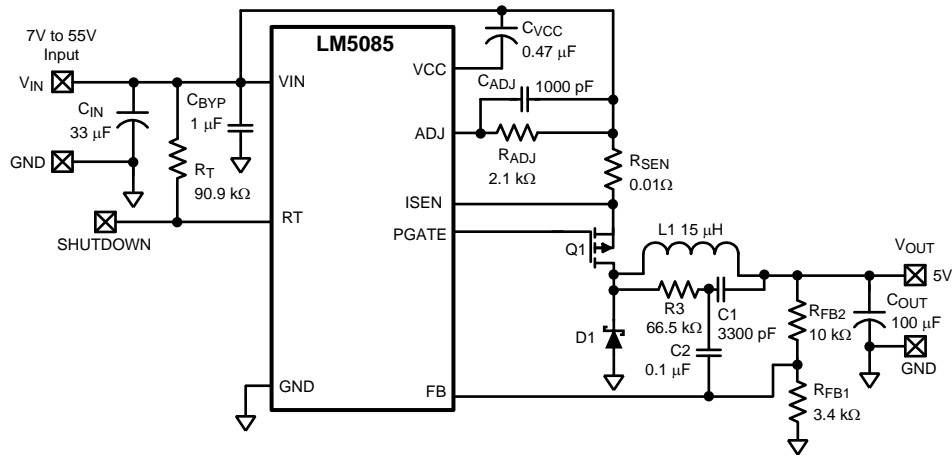
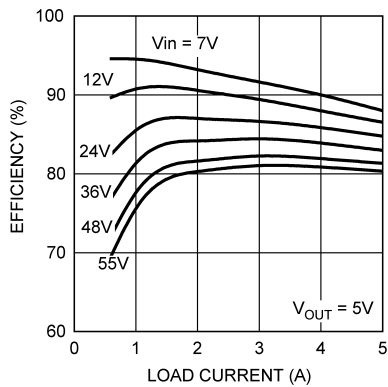
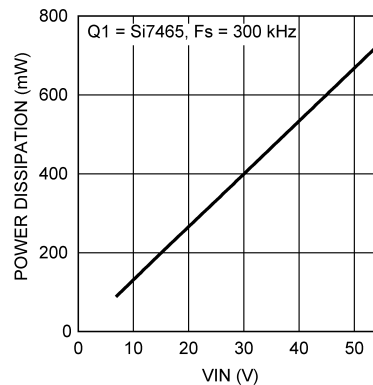
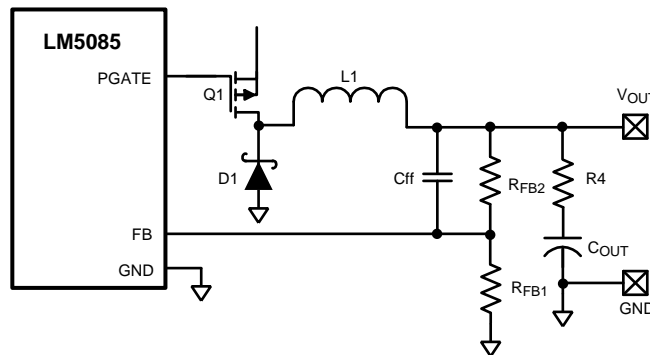

Figure 28. Example Circuit
Figure 29. Efficiency vs. Load Current and  $V_{IN}$  (Circuit of Figure 28)
Figure 32. LM5085 Power Dissipation (Circuit of Figure 28)
Figure 33. Reduced Ripple Configuration
The final circuit is shown in Figure 28, and its performance is presented in Figure 29 through Figure 32.
The minimum ripple configuration, employing C1, C2, and R3 in Figure 28, results in a low ripple amplitude at  $V_{OUT}$  determined mainly by the characteristics of the output capacitor and the ripple current in L1. This configuration allows multiple ceramic capacitors to be used for  $V_{OUT}$  if the output voltage is provided to several places on the PC board. However, if a slightly higher level of ripple at  $V_{OUT}$  is acceptable in the application, and distributed capacitance is not used, the ripple required for the FB comparator pin can be generated with fewer external components using the circuits shown below.
**a) Reduced ripple configuration:** In Figure 33, R3, C1 and C2 are removed (compared to Figure 28). A low value resistor (R4) is added in series with  $C_{OUT}$ , and a capacitor (Cff) is added across  $R_{FB2}$ . Ripple is generated at  $V_{OUT}$  by the inductor's ripple current flowing through R4, and that ripple voltage is passed to the FB pin via Cff. The ripple at  $V_{OUT}$  can be set as low as 25 mVp-p since it is not attenuated by  $R_{FB2}$  and  $R_{FB1}$ . The minimum value for R4 is calculated from:
**b) Lowest cost configuration:** This configuration, shown in Figure 34, is the same as Figure 33 except Cff is removed. Since the ripple voltage at  $V_{OUT}$  is attenuated by  $R_{FB2}$  and  $R_{FB1}$ , the minimum ripple required at  $V_{OUT}$  is equal to: